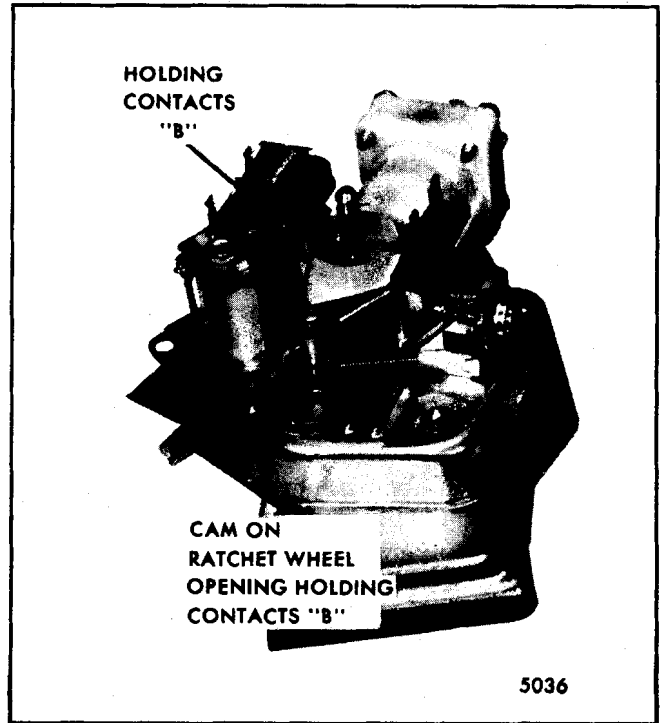
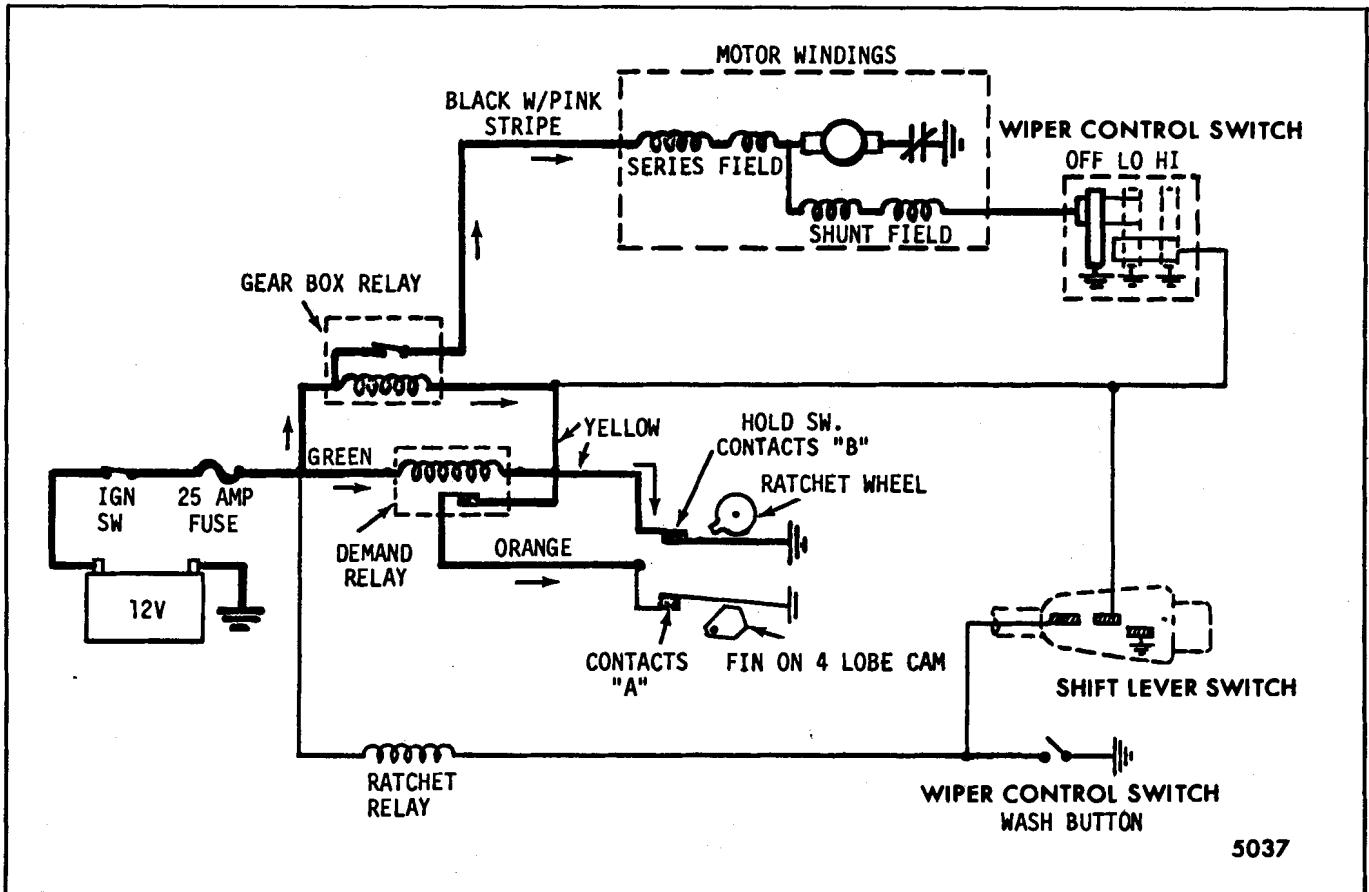
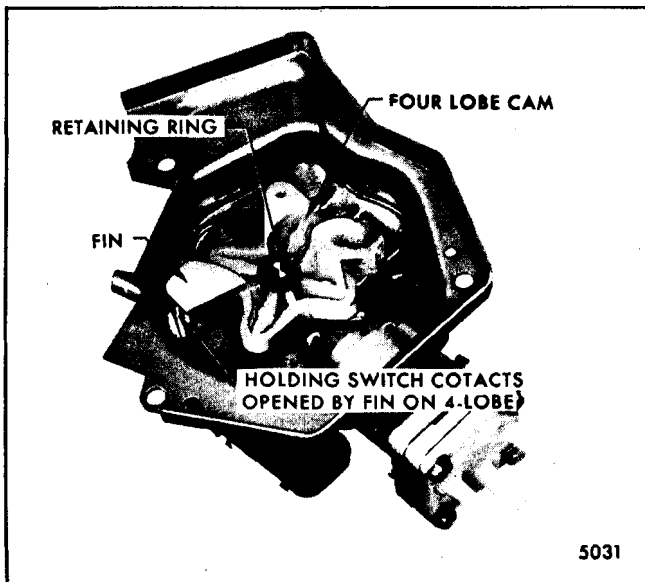

Fig. 2-72-Pump in Idling Position
Fig. 2-73-Holding Circuit for Washer
Fig. 2-76-Four Lobe Cam
3. When the washer pump is released from its "lock-out" or idling position, the pump ratchet wheel starts to rotate. With the pump in the idling position, a cam on the ratchet wheel keeps holding contacts "B" open (Fig. 2-72). However, when the pump starts and the ratchet wheel is rotated one tooth, holding switch contacts "B" closed providing an alternate ground for both the gear box relay coil and the washer pump demand relay coil (Fig. 2-73). The alternate ground circuit through switch contacts "B" is required because contacts "A" are opened once for every revolution of the washer pump 4-lobe cam (Fig. 2-76). Without the alternate circuit, the washer pump demand relay coil circuit would open when contacts "A" open causing the demand relay switch to open which in turn would open the gear box relay coil circuit to ground. This would cause the wiper motor to park the blades and automatically shut off after one wiping stroke.
1. Remove retaining ring and slide 4-lobe cam off shaft (Fig. 2-76).